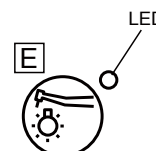

Fig.3-6 Light Pack Switch
④ The Light Pack Switch (Optional)(Fig.3-6) E